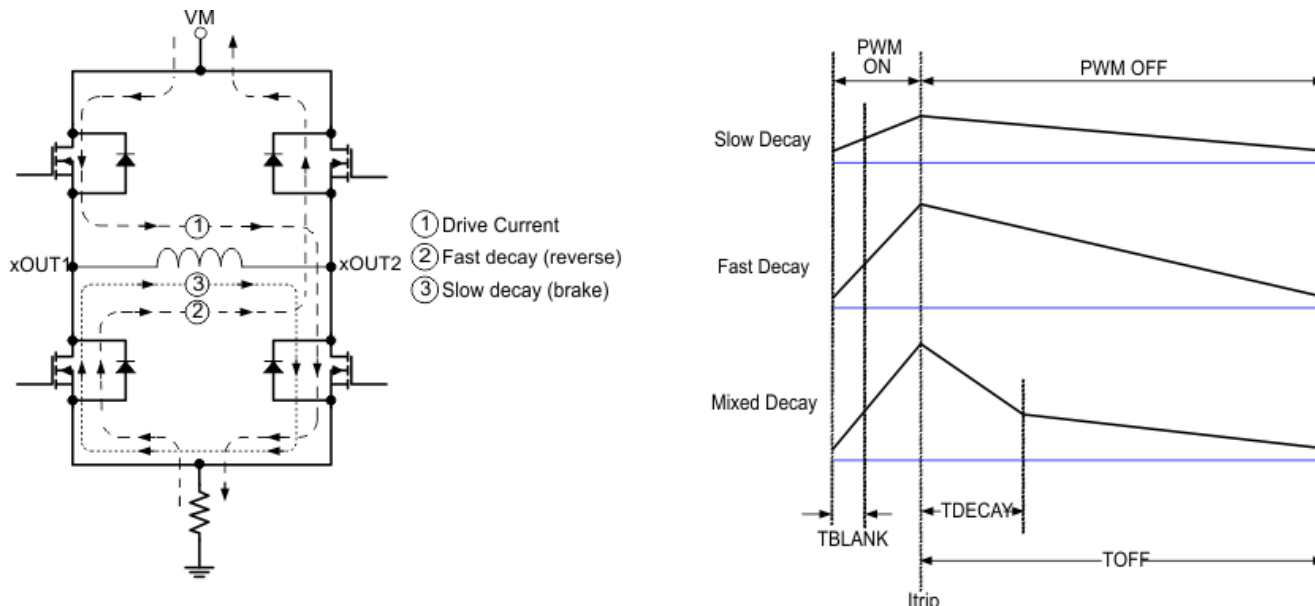

Figure 7-4. Decay Modes
During PWM current chopping, the H-bridge is enabled to drive through the motor winding until the PWM current chopping threshold is reached. This is shown in Figure 7-4, Item 1.
Once the chopping current threshold is reached, the H-bridge can operate in two different states, fast decay or slow decay. In fast decay mode, once the PWM chopping current level has been reached, the H-bridge reverses state to allow winding current to flow in a reverse direction. The opposite FETs are turned on; as the winding current approaches zero, the bridge is disabled to prevent any reverse current flow. Fast decay mode is shown in Figure 7-4, item 2. In slow decay mode, winding current is re-circulated by enabling both of the low-side FETs in the bridge. This is shown in Figure 7-4, Item 3.